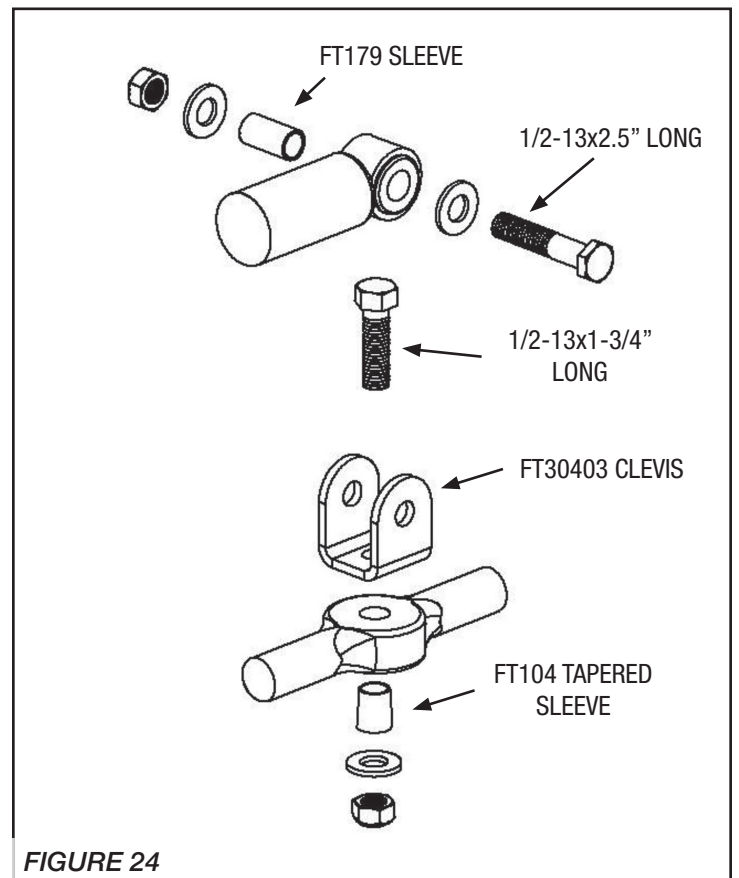

FIGURE 24
28. Locate the factory steering stabilizer. Use a die grinder with a sanding disc and remove the staked washer from the back of the stabilizer mounting pin. Locate FT179 Sleeve, FT30403 Clevis, FT104 Tapered Sleeve, and the supplied 1/2" Hardware. With the factory mounting pin removed from the stabilizer, insert the new sleeve into the stabilizer and attach it to the drag link. Torque the 1/2" bolts to \*\* 90 ft. lbs. **SEE FIGURE 24**